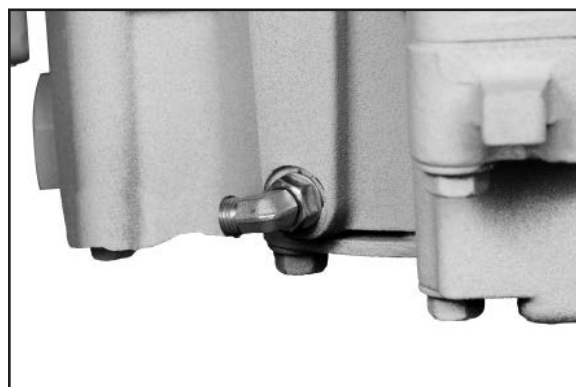

Fig. 22 (Left side shown)
9. Remove the Transmission High Pressure port plug and securely install the 90° elbow fitting (379486) supplied with the PTO (**Fig. 22**). See page 16 for pressure port locations on Allison transmissions.